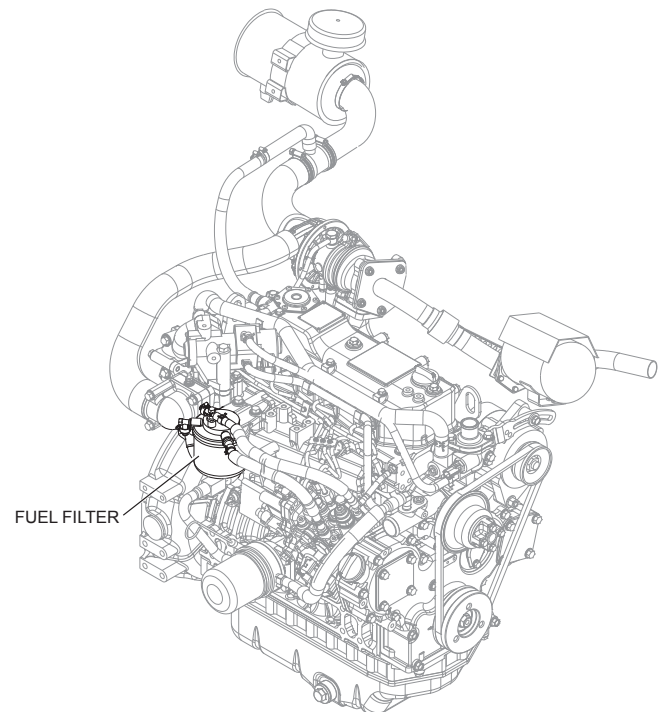

Figure 28. Fuel Filter
1. Replace the engine fuel filter element (Figure 28) every 500 hours.